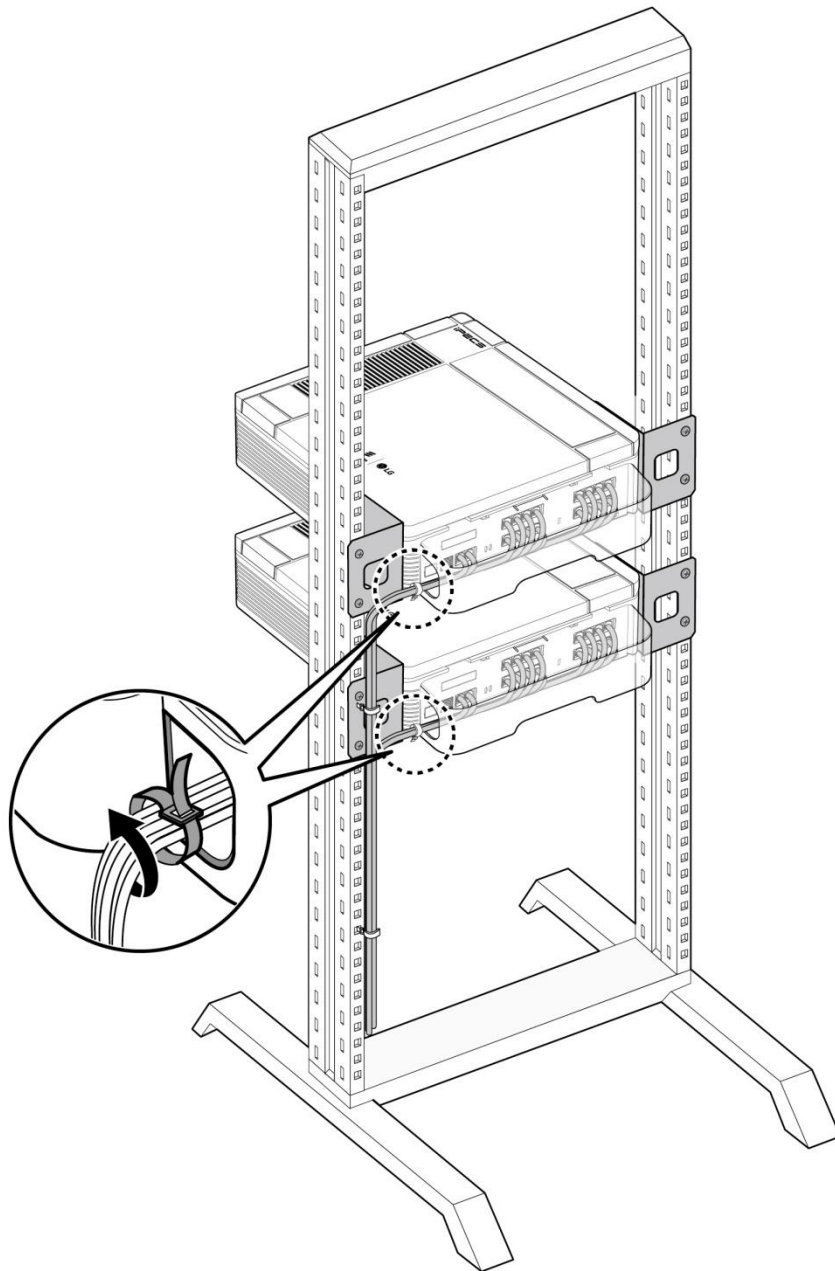

Figure 6.5.2 Rack Mount Wiring
- 3) Using the supplied cable ties, tie all wiring to the slot at the bottom-right side of the KSUs as shown in Figure 6.5.2.